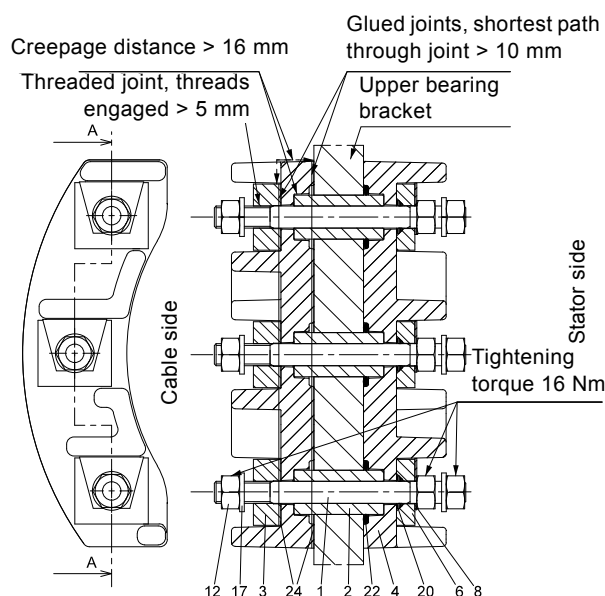

Fig. 15 Ex terminal board, range 72
1. Remove the brass nuts (12) and the spring washers (17). Disconnect the cables from both cable and stator sides. See fig. 15.
2. Release the locking of the brass nuts (12) on the stator side by bending down the tabs of the locking plates (8).
3. Remove the washers (5) including the O-rings (20).
4. Remove the copper stud bolts (1) including washers (3).
5. Remove the sleeves (2).